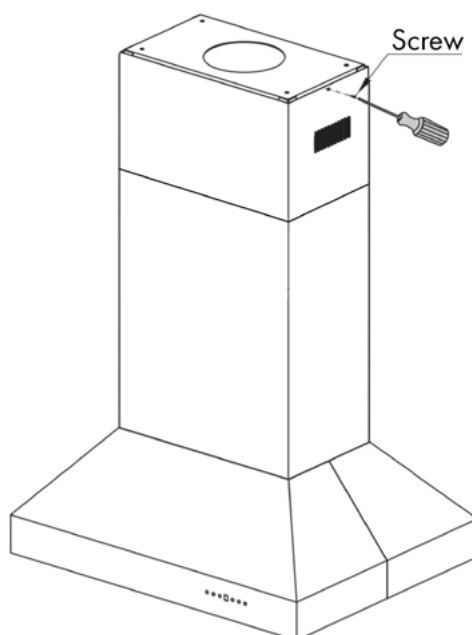

Figure 7
10. Slide the top telescoping chimney piece up to the top of the ceiling and secure it in place with the 2 screws (F) on the left and right sides. *Figure 7*